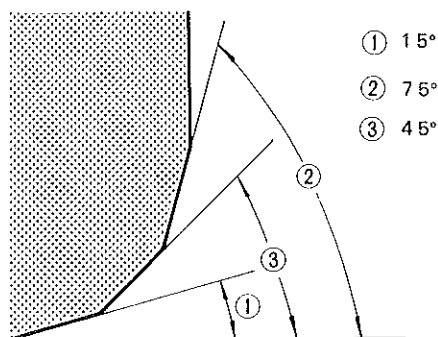

Fig. 4-67 Valve seat angles for exhaust valve seat
1) EXHAUST VALVE SEAT: Use a valve seat cutter to make three cuts in the order illustrated in Fig. 4-67. Three cutters must be used: the first for making the 15° angle, the second for making the 75° angle and the last for making the 45° seat angle. The third cut ③ must be made to produce the desired seat width W .